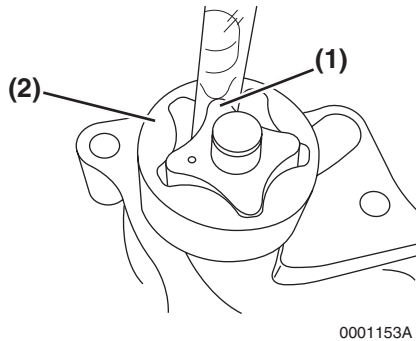

Figure 9-18
Determine the outer rotor to inner rotor tip clearance. Insert a feeler gauge between the top of an inner rotor tooth (**Figure 9-18, (1)**) and the top of an outer rotor tooth (**Figure 9-18, (2)**) and measure the clearance.